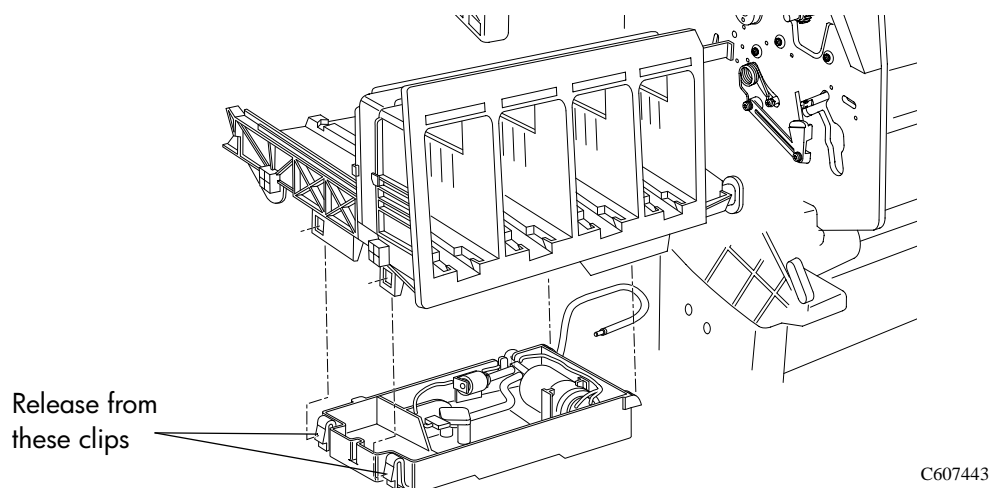

Figure 18: Air Pressurization System
3. Release the APS from the retaining clips underneath the ISS as shown in Figure 18.